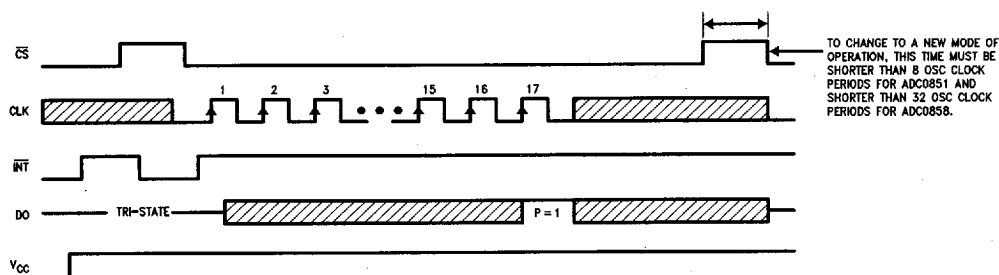

FIGURE 2. Read Power Flag after Power Up ADC0851/ADC0858
Upon power up, the device is automatically configured in the watchdog mode. The status of the power flag bit, P, provides power failure indication to the microprocessor. The timing diagram of Figure 2 shows the sequence of events.
First consider the case of initial power up. After power is applied, \overline{CS} should be brought high. Bringing \overline{CS} high causes the INT pin to go low, which signals the microprocessor that a failure has occurred. The microprocessor can then interrogate the device as to the type of failure by bringing \overline{CS} low. When \overline{CS} goes low, it resets the INT pin to high and the output data is read starting at the first rising edge of clock (CLK) after \overline{CS} has gone low. Since this is the first read cycle after power up, the power flag bit, P, is set high and appears at the rising edge of the seventeenth clock cycle after \overline{CS} low is detected (Figure 2). After the power flag is read by the microprocessor, \overline{CS} is taken high. Note that the duration for which \overline{CS} remains high (after the power flag is read) must be less than eight oscillator clock periods for ADC0851 and less than thirty-two oscillator clock periods for ADC0858. This is required to interrupt the device from watchdog mode so that when \overline{CS} goes low, the device reads a valid data input (DI) word and configures to a new mode.